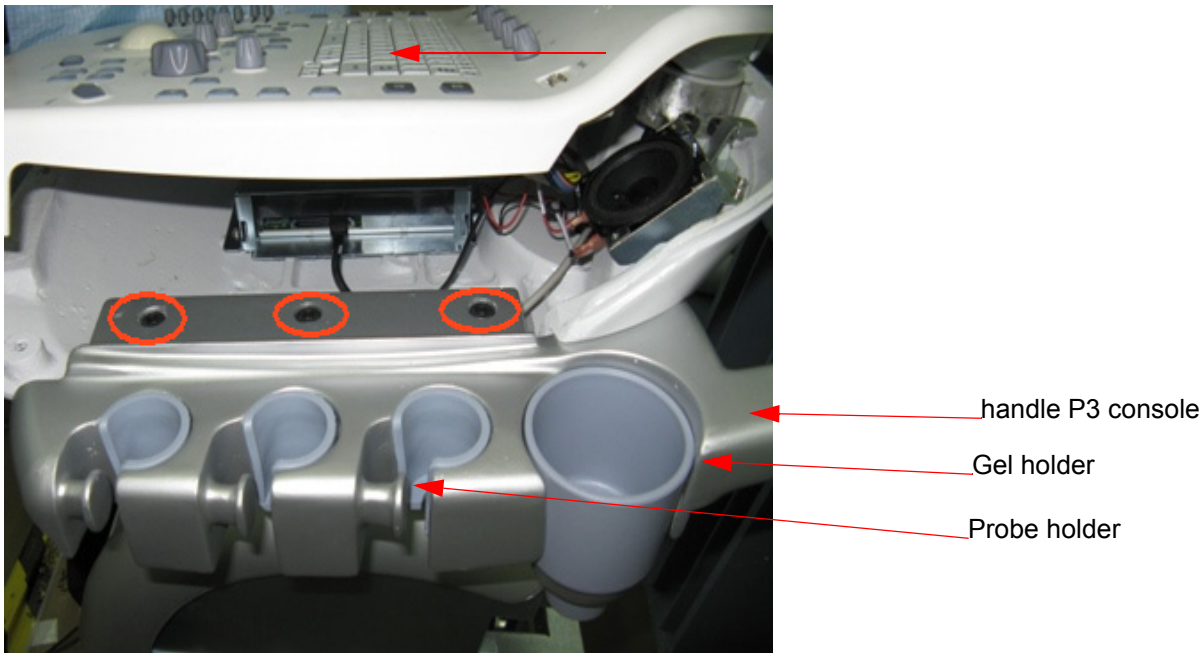

Figure 8-8    Handle P3 console
- 1) Remove keyboard Top cover and Pull out the keyboard top assembly cover by the slot marked in the Figure 8-8 on page 8-10
3) Using the allen key set remove Handle P3 console by unfastening the two socket head fasteners marked (1,2,3) in the Figure 8-8 on page 8-10